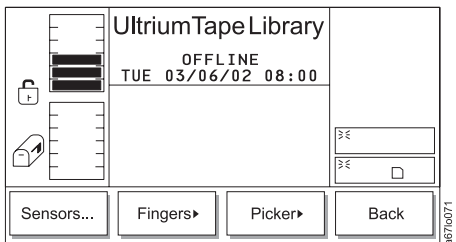

Figure 4-157. Diags Submenu
- Press the button below the **Diags** softkey. The Diags Submenu displays (see Figure 4-157).